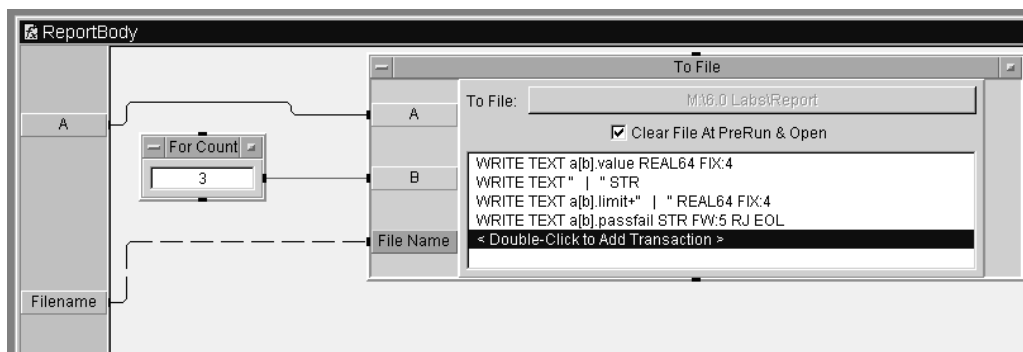

Figure 14.9. ReportBody revisions
22. Modify your ReportBody Function as shown in Figure 14.9 – both the instructions in ToFile and the additional terminal (FileName) and its connection.